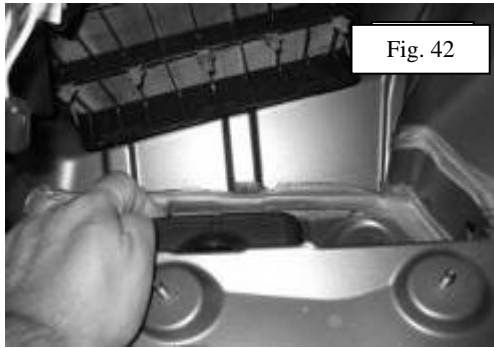

Fig. 42
- ⚠ 23. Inside of the cargo tray area, locate a suitable mounting location for the black power module box. The box should be mounted on a flat surface across from the ventilation grille. Test fit and make sure the trim panels will fit back on before attaching with double-sided tape (Fig 42).